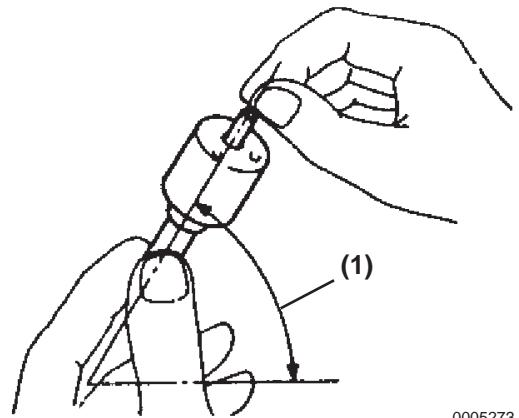

Figure 6-22
5. **NOTICE:** Wash the nozzle in clean diesel fuel. NEVER touch the nozzle mating surfaces with bare hands. Incline the nozzle body by about 60° (**Figure 6-22, (1)**) and pull out the needle tip by about 1/3 of its overall length.